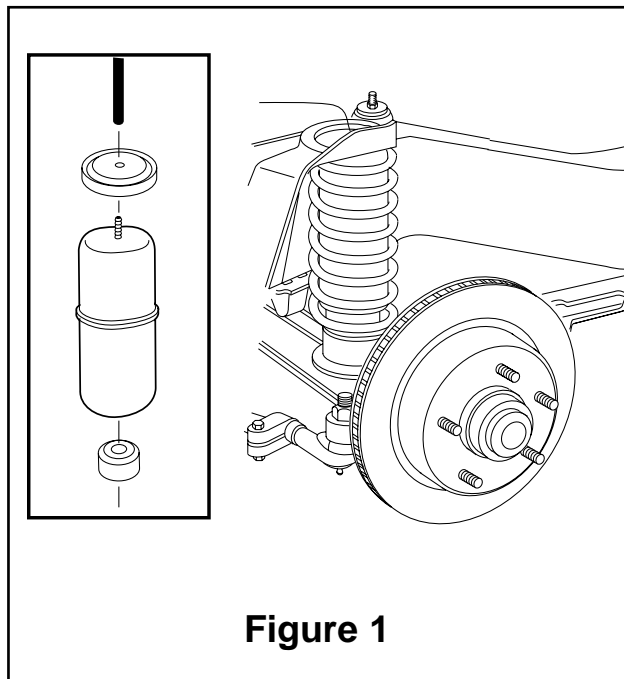

Figure 1
3. Install the lower protector (Figure 1) by dropping it through the upper coil spring seat, cupped side down. Set the protector on the bolt attaching the spring to the axle.
If the vehicle's headlights are shining into the trees or the vehicle is leaning to one side, then it is not level (fig. 1). Raise the air pressure to correct either of these problems and level the vehicle.